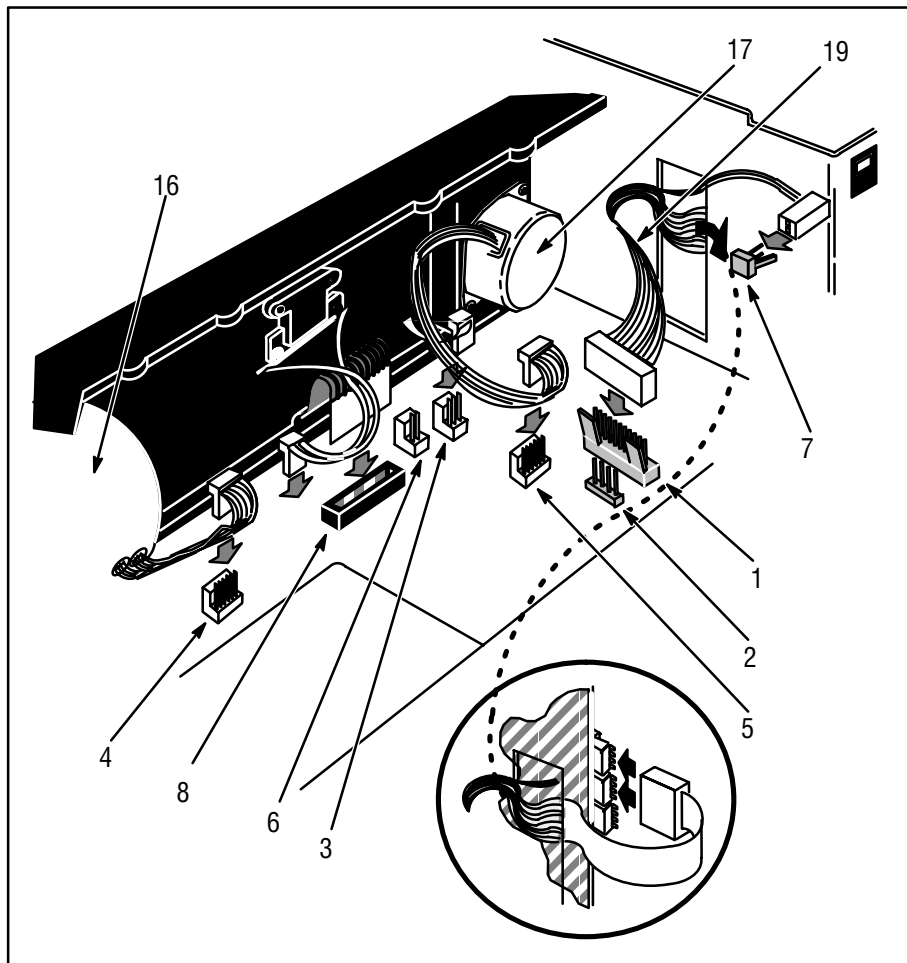

Figure 7-9. Print Mechanism Cable Connections and Test Points
4. See figure 7-9 and tables 7-3 and 8-1 to identify and remove the following printer cables. Remove the print carriage motor cable from connector P3. Remove the optical sensor cable from connector P4. Remove the flexible print cartridge cable from J3, noting that it only makes contact on one side. Remove the out-of-paper sensor cable from connector P7. Remove the paper drive motor cable from connector P8.
The unit is now completely disassembled. To reassemble the instrument, follow this procedure in reverse. Refer to figures 7-9, 7-11, and 8-1 for parts and cable placement details. All self-tapping screws should be replaced with new screws.